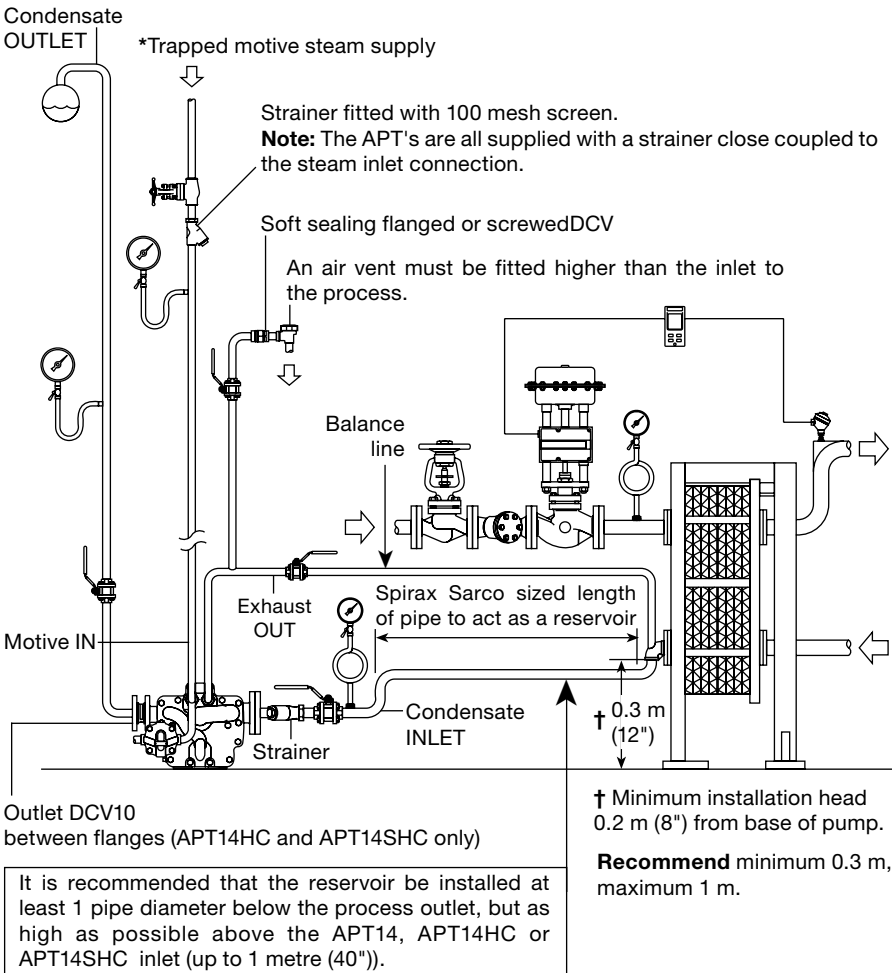

Fig. 10
The APT's have four connection ports. The DN40 (1½") - APT14 or DN50 (2") - APT14HC and APT14SHC port should be connected to the outlet of the equipment being drained. The DN25 (1") - APT14 or DN40 (1½") APT14HC and APT14SHC port should be connected to the condensate return line. Flow arrows indicate the correct direction of flow. The DN15 (½") port marked (S) should be connected to a trapped motive steam supply. *** It is important to ensure this line is drained of condensate at all times using a Spirax Sarco steam trap and filtered using a 100 mesh strainer as fitted (see Figure 10).** The screwed DN15 (½") port marked (E) should be balanced back as close as possible to the condensate outlet of the equipment. This balance line must always be connected to the top of the condensate pipe, as shown in Figure 10. **Note:** If a thermal cut out device has been installed to protect the heat exchanger from excess temperature, then it is important this is mounted upstream of the steam control valve and the take-off point for the motive steam supply to the APT14, APT14HC or APT14SHC.